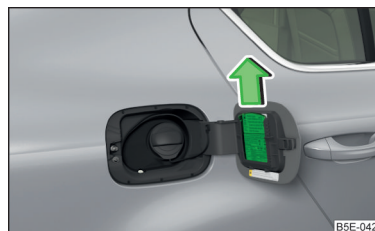

Fig. 172
- Slide out the ice scraper in the direction of the arrow » Fig. 172.